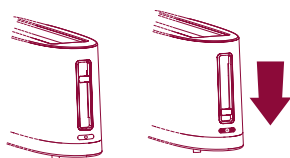

Fig. 5
- 3 Lower the lift mechanism lever to turn on the Toaster: the CANCEL button will light up (fig. 5). If the lever doesn't stay down, check that the plug is inserted in the outlet.